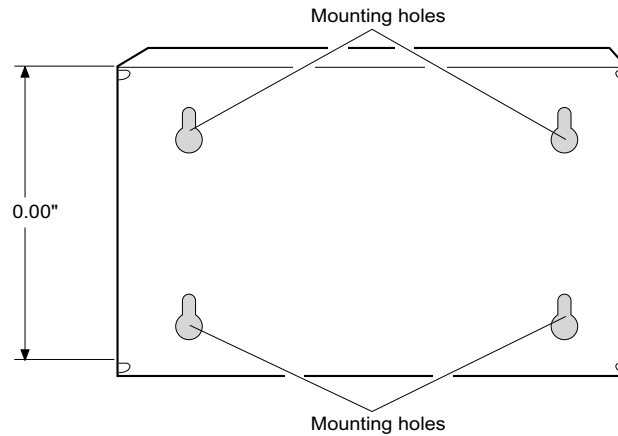

Figure 6. HRE-206 Backplate
- 3 Use the backplate as a template to mark the wall locations for drilling the mounting holes (Figure 6).